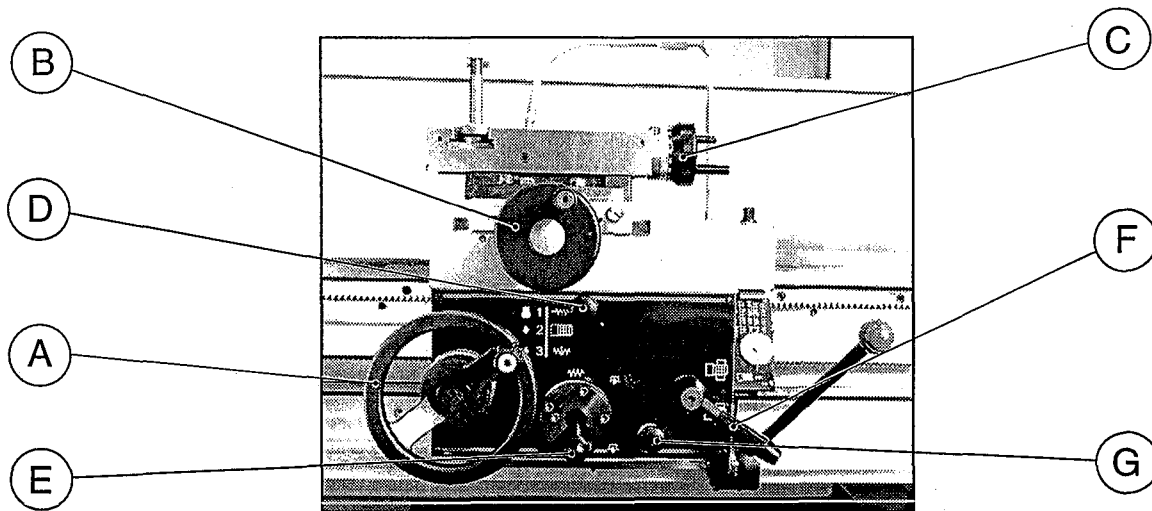

Fig. 12
Apron and slide controls (Fig. 12). In addition to the manual operation of the saddle by rotating apron handwheel (A), the cross-slide handwheel (B) and the topslide by handwheel (C), power feed is available to the saddle and cross-slide, by engaging lever (E).